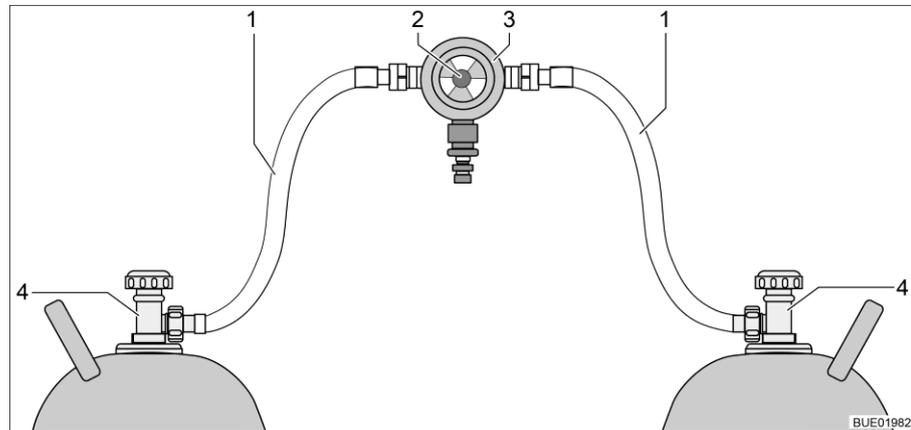
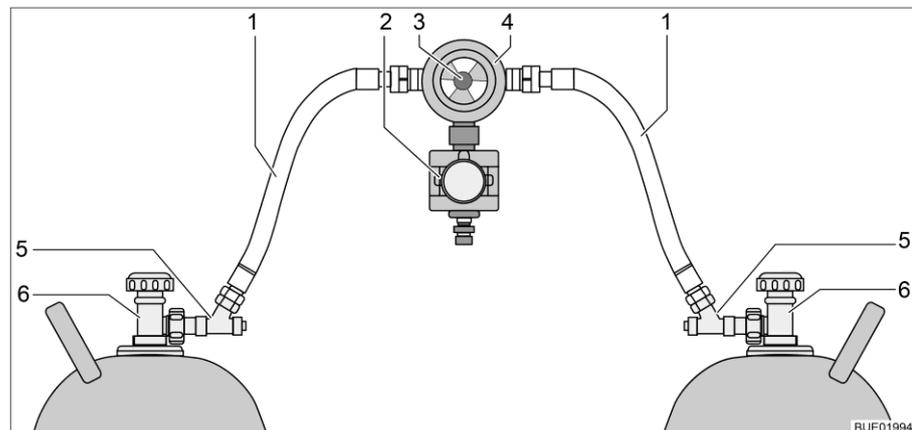

Fig. 89 Gas bottle switching facility
Fig. 90 Gas bottle switching facility with CPU
The gas bottle switching facility consists of a combined gas pressure regulator with reversing valve and indicator (Fig. 89,3). The gas bottle switching facility is installed between the two gas tubes (Fig. 89,1).
The gas bottle switching facility consists of a combined gas pressure regulator with reversing valve and indicator (Fig. 90,4), and an electrovalve (Fig. 90,2). The electrovalve blocks the gas supply to the vehicle in the event of a full braking, an accident, or an unusually great inclined position. The gas bottle switching facility is installed between the two gas tubes (Fig. 90,1) with hose break guards (Fig. 90,5).
**Function** The gas bottle switching facility ensures a constant gas pressure, regardless of which gas bottle is being drawn upon. The display in the reversing valve shows the filling level of the primary bottle. The gas supply comes from the primary bottle when the display is green. When the display is red the primary bottle is empty. In this case, the reserve bottle is used for the gas supply. Use the knob (Fig. 89,2 or Fig. 90,3) on the gas bottle switching facility to select which of the gas bottles is to be used as a primary bottle and which is to be used as a reserve bottle.
Only the electrical functions can be switched at the operating unit (Fig. 91). The regulator taps on the gas bottles (Fig. 89,4 or Fig. 90,6) must be opened and closed manually.
- Open the regulator taps of the gas bottles (Fig. 89,4 or Fig. 90,6).
- Press the hose break guards (Fig. 90,5) successively for 10 seconds.
- Use the knob (Fig. 89,2 or Fig. 90,3) on the switching facility to select the gas bottle which is to be the primary source of gas (primary bottle). Always turn the knob as far as it will go.
- Close the regulator taps of the gas bottles (Fig. 89,4 or Fig. 90,6).